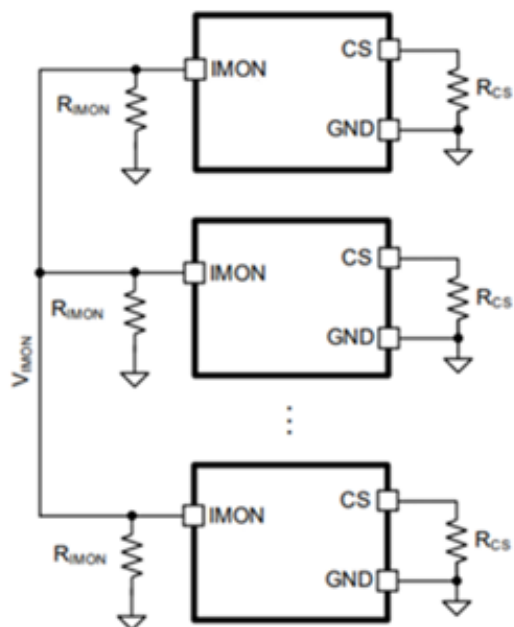

Fig.12 IMON and CS Connections in Multi-Fuse Parallel Application
The equivalent average IMON resistance ($R_{\text{IMON_AVG}}$) can be calculated with Equation (6). Figure 12 shows the IMON and CS connections of multiple XPA5991s in a multi-fuse parallel application.